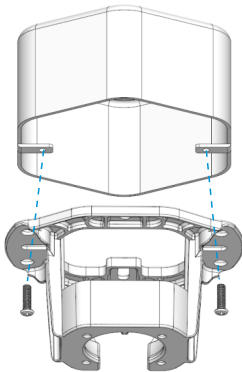

Fig. 4.1
**Note:** This mounting bracket is a standard cable box. If the mounting bracket is installed at the outlet box, it should be installed on the outlet box with two screws matching the outlet box itself, as shown in Fig. 4.1.